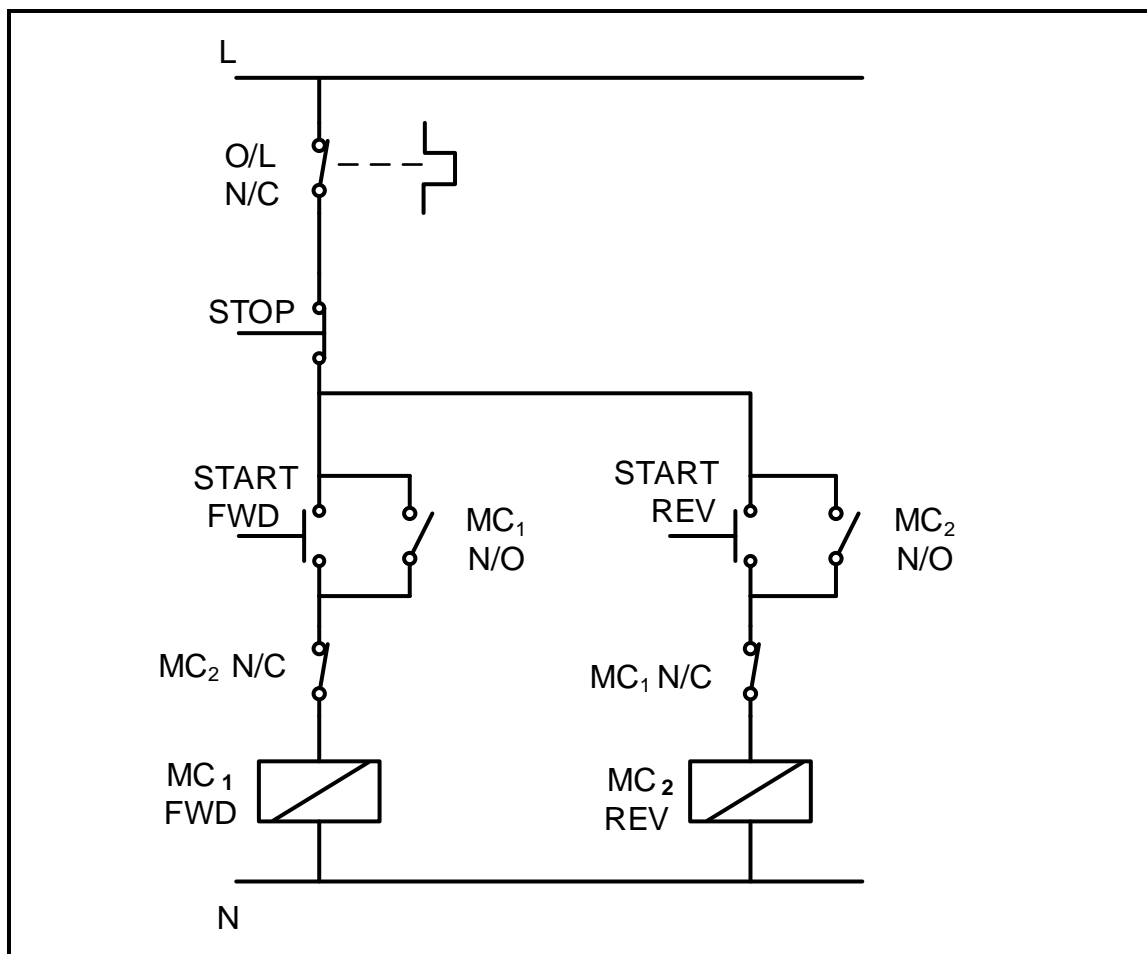

FIGURE 7.5: CONTROL CIRCUIT OF A FORWARD-REVERSE STARTER
- 7.5 FIGURE 7.5 below shows a control circuit of a forward-reverse starter. Draw the PLC ladder logic program that will execute the same function in a PLC system.